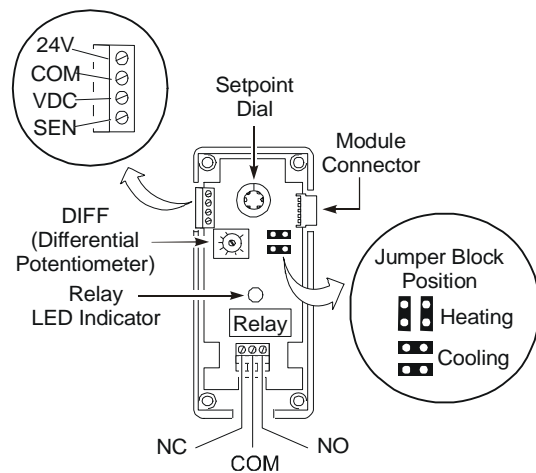

Figure 2: A350A/B Board Layout and Terminal Locations
Setpoint is defined as the temperature at which the A350A/B's relay de-energizes. Use the Setpoint Dial on the front of the A350A/B to adjust setpoint. See Figure 2.
Differential is defined as the change in sensor temperature between energization and de-energization of the relay. Adjustment of the A350A/B differential is made using the potentiometer marked DIFF. See Figure 2 for its location. Refer to Table 5 for adjustment ranges.
As shipped from the factory, the heating/cooling jumper blocks are installed in the horizontal (cooling) position. See Figure 2.
Shielded cable is not generally required for sensor wiring on runs of less than 50 ft (15.2 m), but is recommended for lengths greater than 50 ft (15.2 m). When using shielded cable, isolate and tape the shield at the sensor. Connect the shield to the COM sensor terminal on the A350A/B. (See Figure 2 for terminal location.) The A99BA-200C sensor, which includes shielded cable, is available if needed.
- Various A99B Series Temperature Sensors and mounting hardware are available for use with A350 Series Controls. See Tables 3 and 6. The sensor must be connected to the COM and SEN terminals on the four-position terminal strip located at the top left of the printed circuit board (Refer to Figures 2, 4, and 5.). The sensors are not polarity sensitive.
2. Set the heating/cooling jumper blocks to the desired mode of operation. Position the jumper blocks vertically for heating or horizontally for cooling. (See Figure 2.)
- a. Connect a digital voltmeter (DVM) between the 24V and COM terminals located on the control's left side terminal block (See Figure 2.)